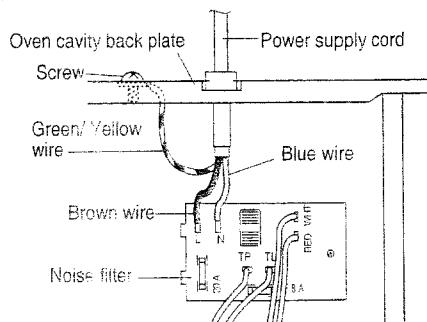

Figure C-4 (a) Replacement of Power Supply Cord
1. Insert the moulding cord stopper of power supply cord into the square hole of the power angle, referring to the Figure C-4(b).
2. Install the earth wire lead of power supply cord to the oven cavity with one (1) screw and tight the screw.